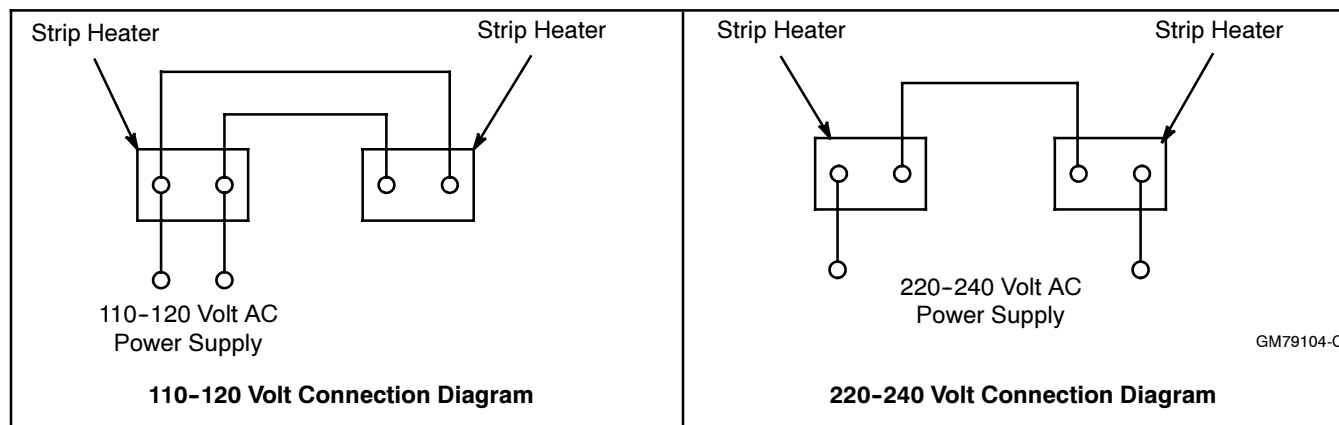

Figure 2 Heater Kit Wiring Diagrams
- 2.9 Open circuit breaker to AC power source. With installer-supplied leads and terminals, connect strip heaters to AC voltage source using appropriate wiring diagram in Figure 2. Installation must conform to applicable local and national electrical codes.